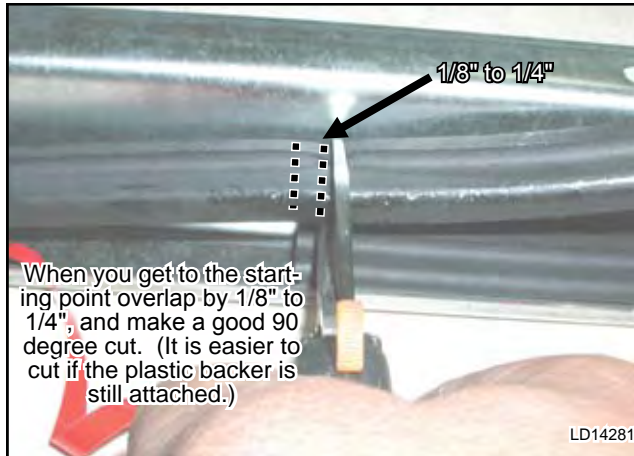

FIG. 5-77 – CUT GASKET AT STARTING POINT
- When you get to the starting point, overlap by 1/8" to 1/4", and make a good 90 degree cut. (It is easier to cut if the red backer plastic is still attached) (see Fig. 5-77).